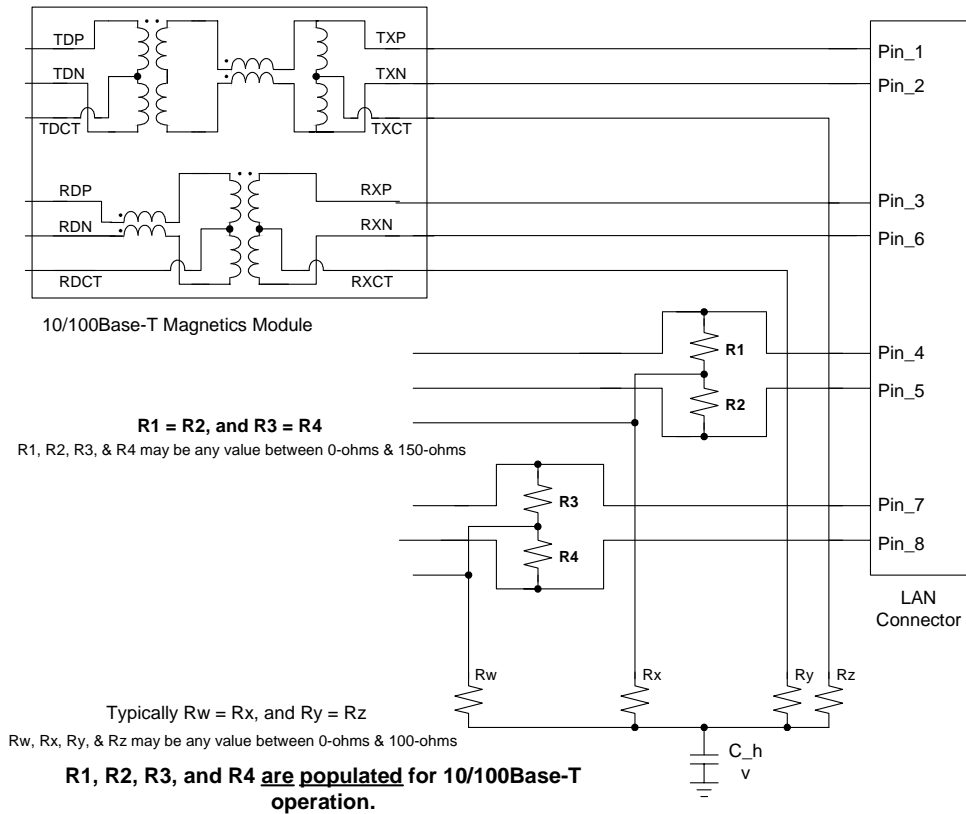

Figure 11. Replacement of Magnetics for 10/100 LAN Controller with Optional Resistors Populated
3. Replace the magnetics for the 82541ER with the one for the 82551ER(IT), or the 82562EZ(EX) and then populate R1/R2 and R3/R4 for a 82551ER(IT)/82562EZ(EX) LOM design. Refer to Figure 11.